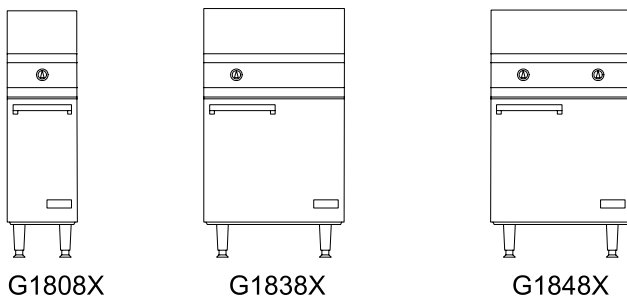

Figure 1
- n) Push the control knob inward and turn it to the OFF position. (Figure 1)